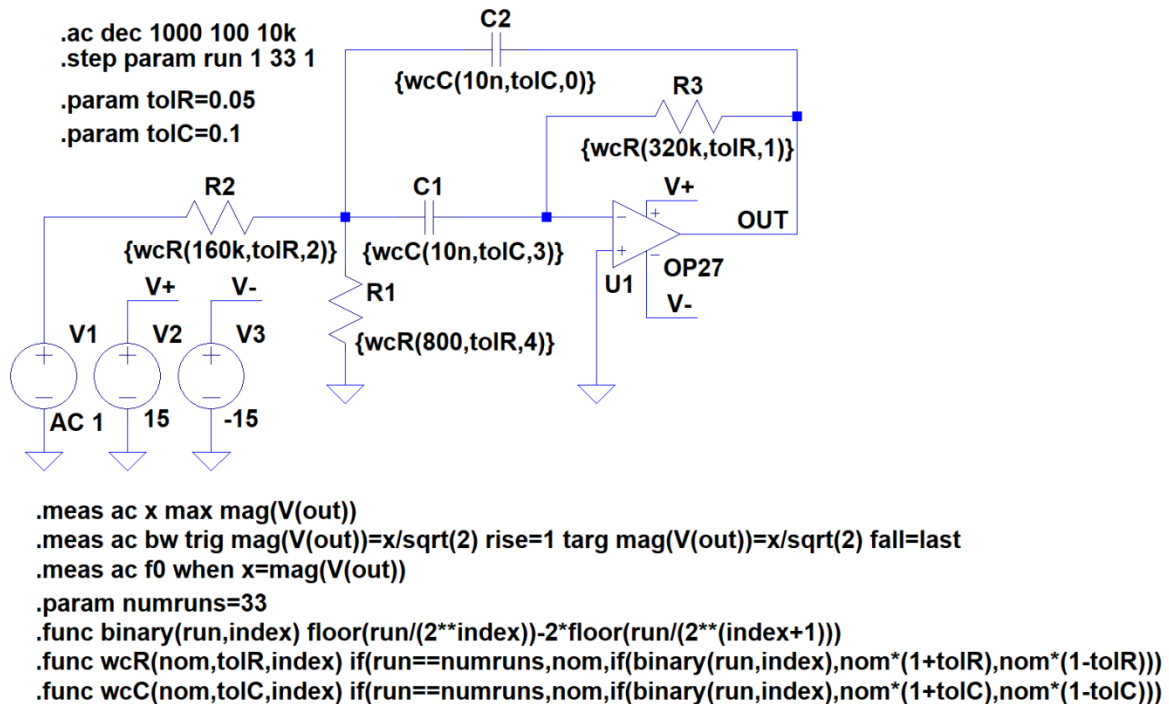

Fig. 12. Scheme of the tested filter system for WC analysis.
1. Make WC analysis (Fig.12), take capacitors tolerance of 10% and 5% resistors.